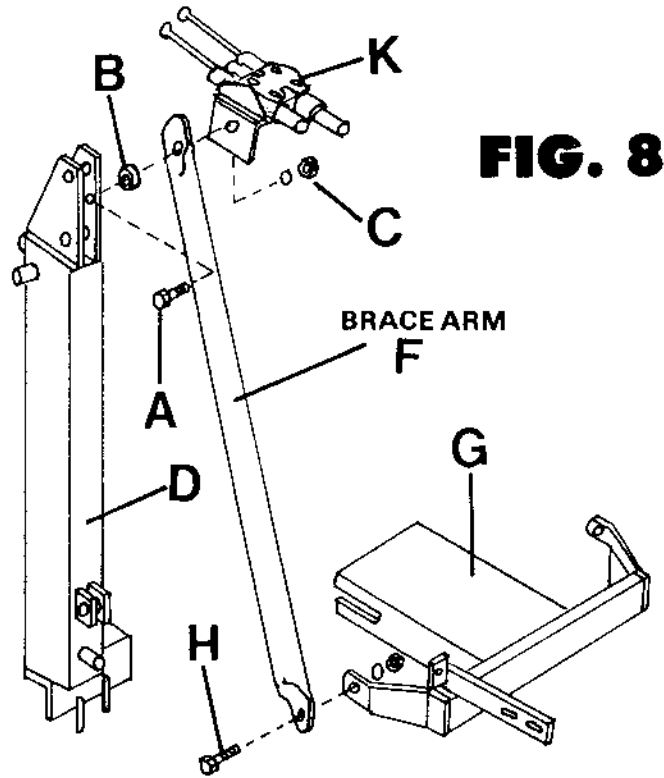

FIG. 8
8. Refer to Fig. 8.
The Valve Mounting Plate with Valve attached (K) is pre-assembled and connected to the Main Frame by four hydraulic hoses. Figure 8 shows how it is attached to upright (D), brace arm (F) and bolt (A), but this cannot be done until the Main Frame is in position. Repeat operation on other side.
NOW, at this point, go back and tighten all bolts wrench tight, after any necessary adjustments have been made. (you should leave the one bolt loose where the valve mounting plate connects to upright (D) Fig. 8. Replace tractor Cowling Top Assembly (Hood) at this point, if not already done.
Hoist pre-assembled Main Frame into position and connect points (A), (B) and (C) to Upright (D). Points (B) and (C) both use one $\frac{3}{4}$ x $2\frac{1}{2}$ " Hitch Pin (E) and #11 Clip Pin (F). Point (A) is connected with one $\frac{5}{8}$ x $2\frac{1}{2}$ " Hitch Pin (G) and #3 Clip Pin (H). Now, connect the Valve Mounting Plate, with valve attached, to the Upright Reservoir. Refer back to Figure 8.